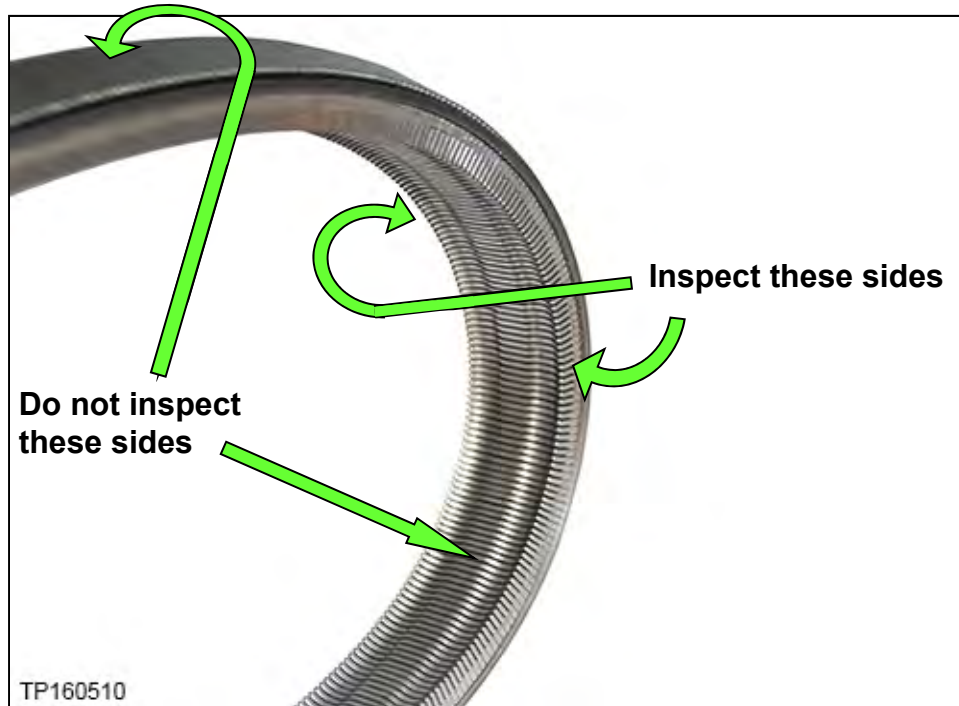

Figure 8
6. Using borescope J-51951 with mirror attachment, inspect the entirety of the two sides of the belt that come in contact with the pulleys (see page 7 Figure 8).